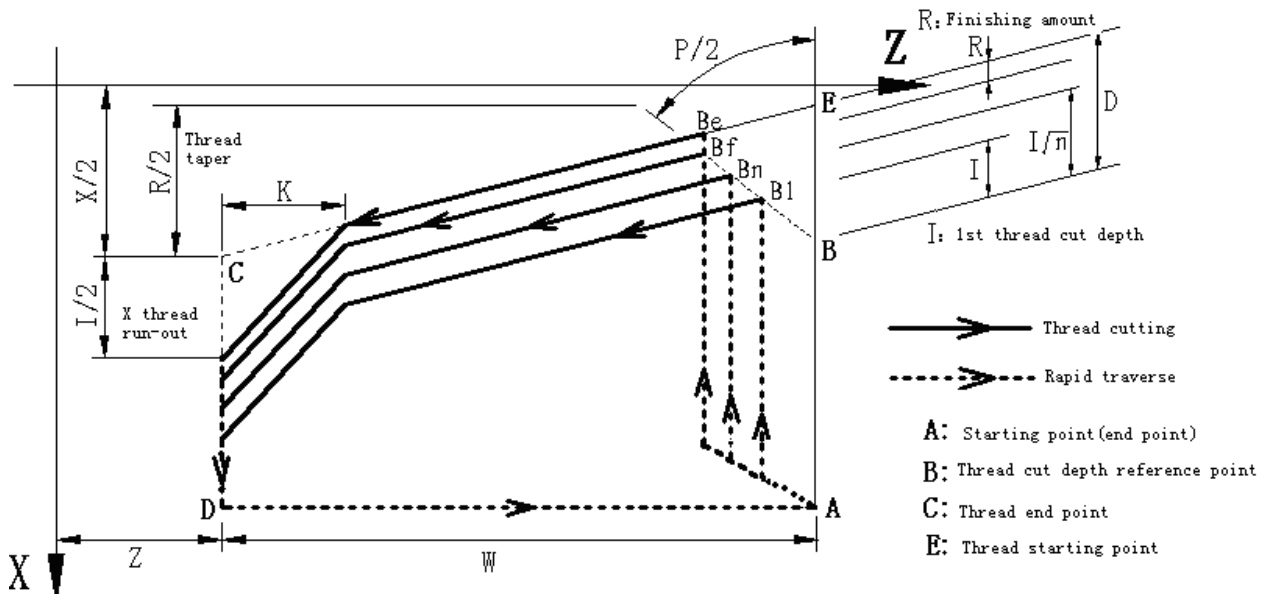

Fig. 4-47
Field definitions, data range are the same those of G92 as Fig. 4-47:
Relative definitions: (as Fig. 4-47)
1. Using G76 thread cycle cutting command group can complete the specified tooth height(total cut depth) of the thread cutting by multi thread roughing and finishing; when the thread angle defined by the command ① is not 0°, the cut-in point of thread roughing moves to the thread tooth bottom from the thread tool top and the angle between neighboring two teeth is the defined thread angle.
4. When the thread angle defined by G76 ① is not 0, X, Z move simultaneously, the thread axis reaches the cut-in point, and then the single-axis for non-thread axis moves to the cut-in point in G76 ② thread cycle from the starting point to the cut-in point; other cut path is the same that of G92 as Fig. 4-47.